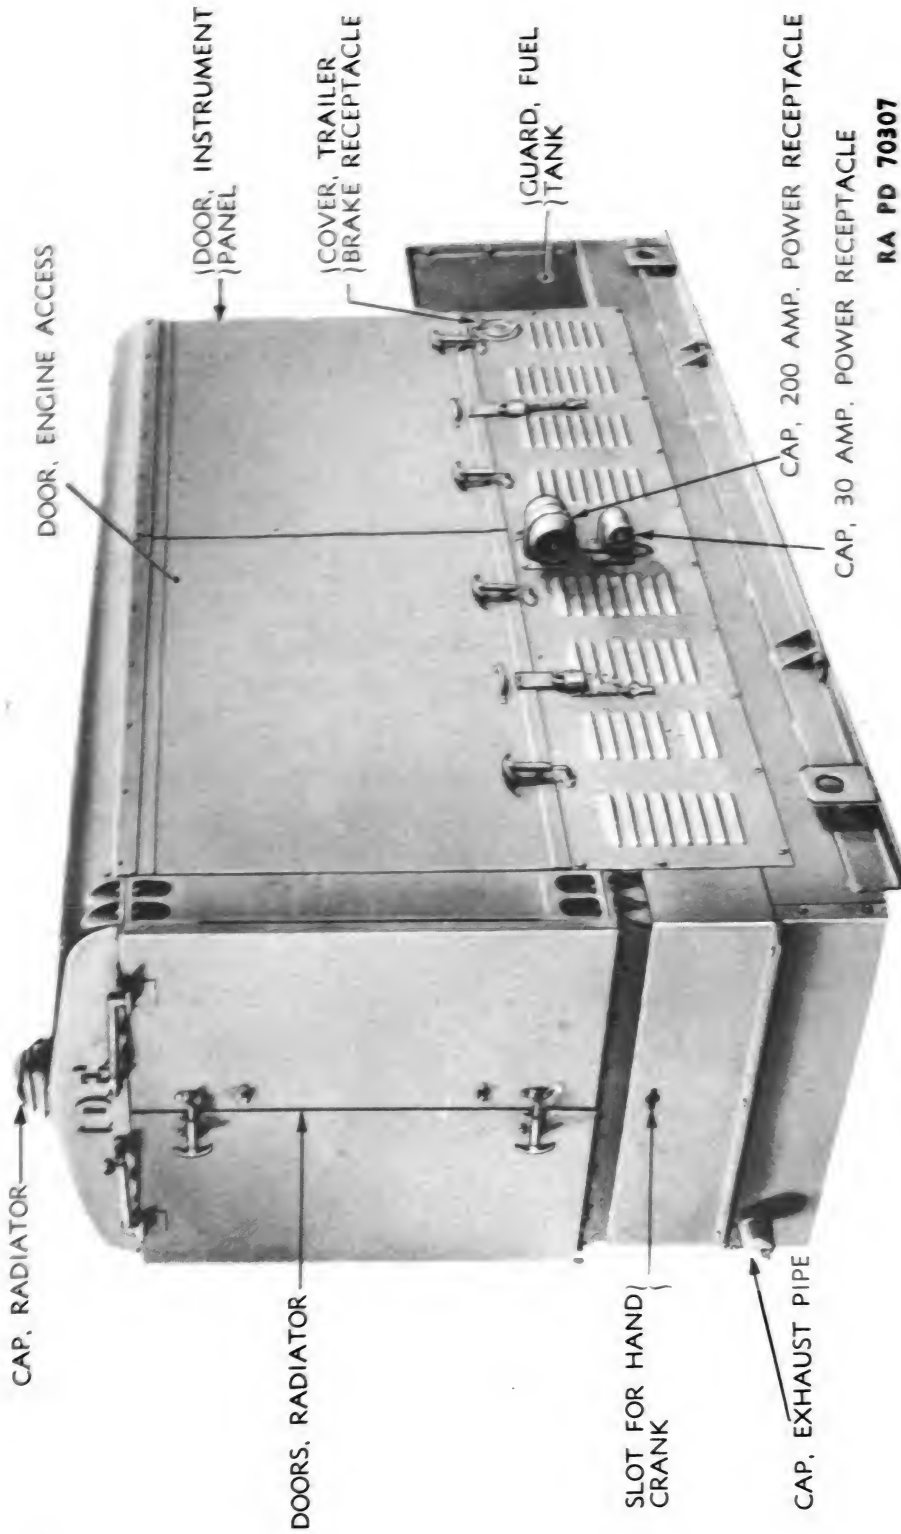

Figure 1 - Generating Unit M7 - Left Front View
a. **General.** This unit (figs. 1 to 5) is a self-contained power plant mounted on a welded steel frame for use either on a specially designed trailer or set upon wood skids. The unit is completely enclosed by a sheet metal housing bolted to the base frame. Side doors give access to instrument panel, engine, generator, and other parts within the housing. The instrument and control panel is located over the alternator, on the left side of the unit. The radiator end of the unit is considered the front, and right and left sides are determined from the rear, facing toward the radiator.